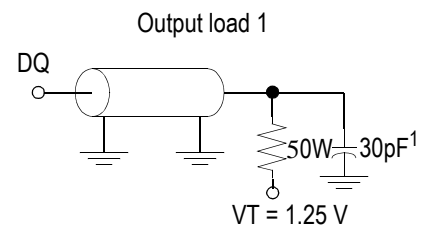

FIG. 1
Output load	Fig. 1 & 2
- Test conditions as specified with output loading as shown in **Fig. 1** unless otherwise noted.